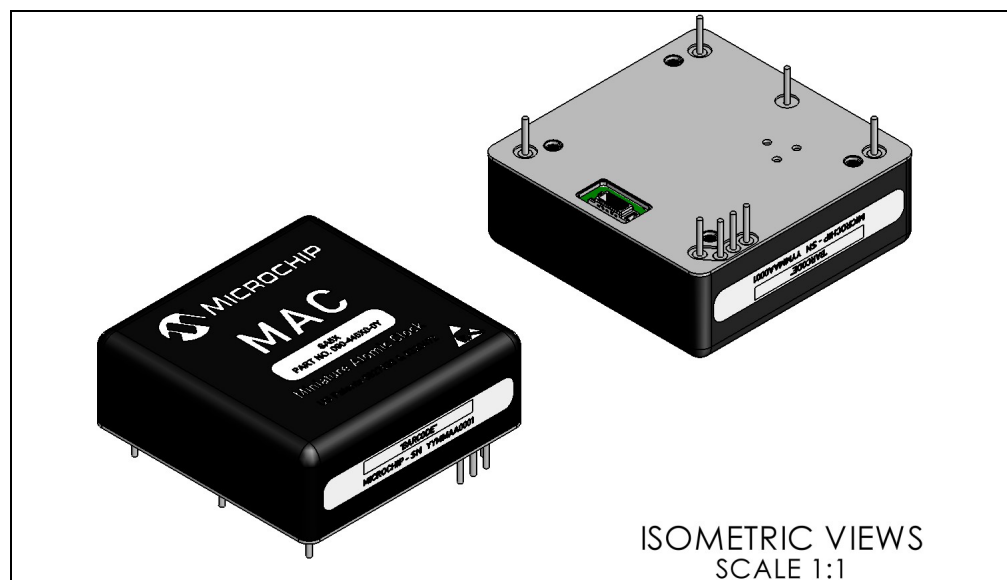

FIGURE 1-1: The Miniature Atomic Clock (MAC) SA5X.
- Updated mechanical drawings and images (Figure 1-1, Figure 1-2, Figure 2-1, Figure 2-3) to accurately reflect the labeling as it is manufactured. Top labels have been rotated 90 degrees. Previous drawings did not show proper label orientation.